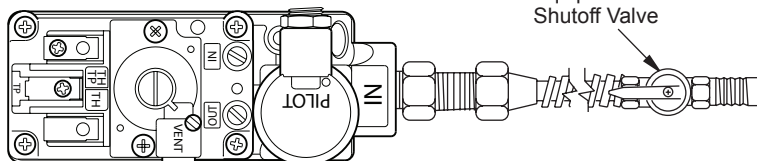

Figure 39 - Turning Equipment Shutoff Valve to the OFF Position
6. Turn equipment shutoff valve clockwise  to the OFF position (see Figure 39). Do not force.
7. Wait five (5) minutes to clear out any gas. Then smell for gas, including near the floor. If you smell gas, STOP! Follow "B" in the safety information, column 1. If you don't smell gas, go to the next step.